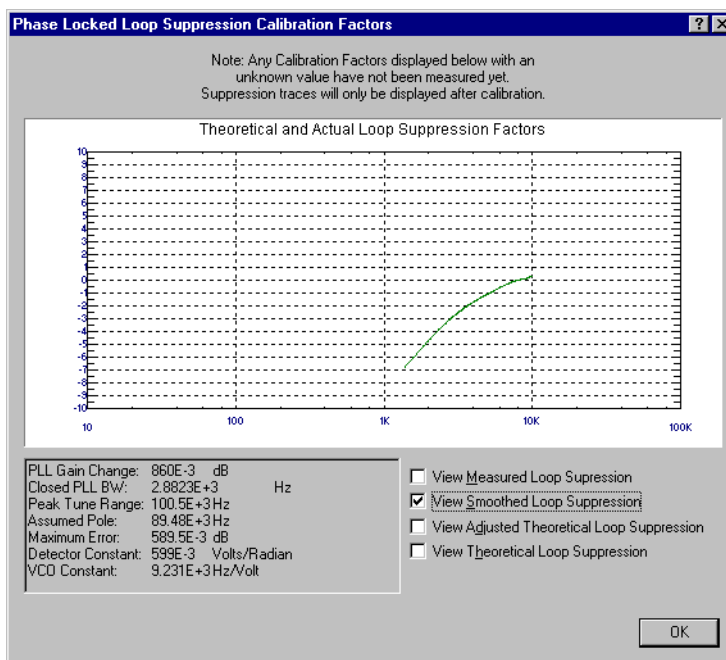

Figure 16-5 Smoothed Loop Suppression Curve
- 2 “Smoothed” measured suppression curve (Figure 16-5) - this is a curve-fit representation of the measured results, it is used to compare with the “theoretical” loop suppression;